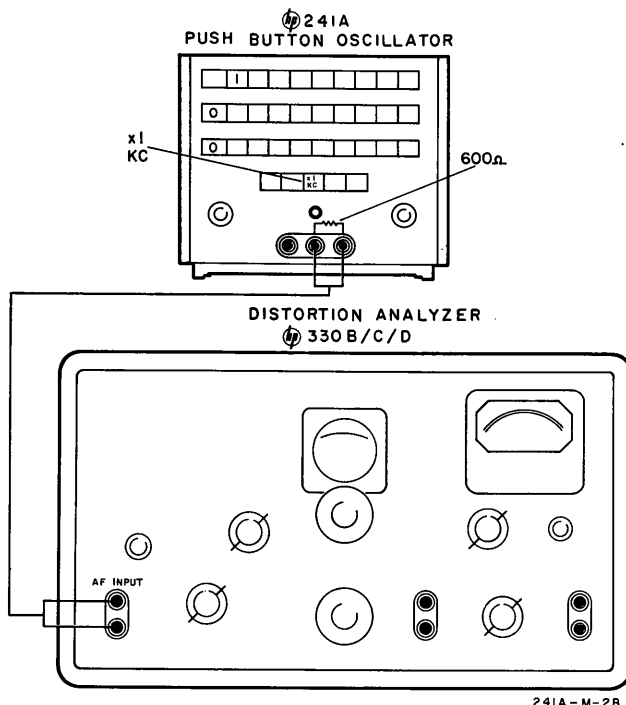

Figure 5-2. Distortion Check Setup
- Connect the Model 241A as shown in Figure 5-2.
- a. Connect Model 241A as shown in Figure 5-2.